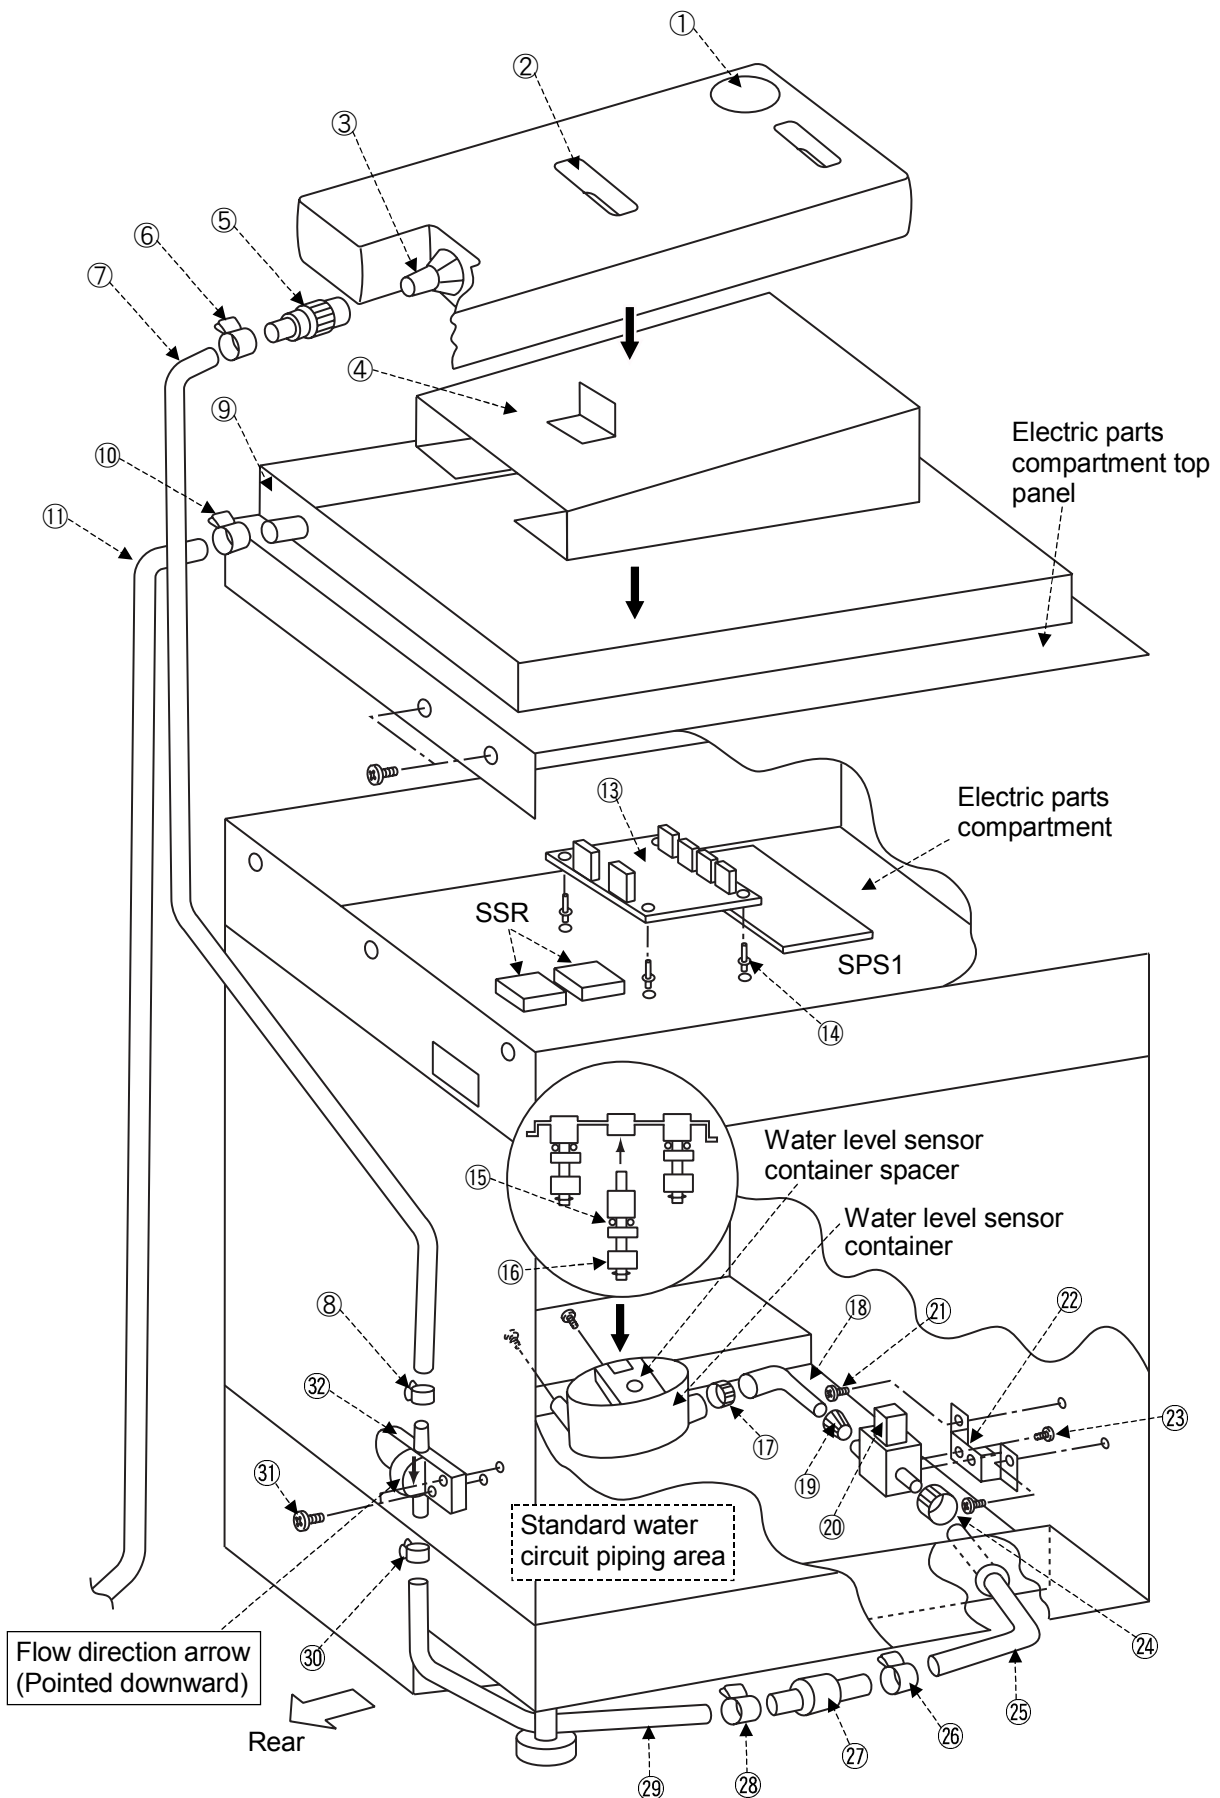

Fig. 9.1 Piping for auxiliary water tank circuit (option)
The same numbers given under “No.” are used in Fig. 9.1.
6. Rig the auxiliary water tank circuit line as shown in Fig. 9.1. Lock the solenoid valve ⑳ to the solenoid bracket ㉒ before locking the bracket to the water circuit compartment.
8. Fit the spacers ⑭ (for circuit board) into the bottom of the electric parts compartment, and install the auxiliary water tank water supply board ⑬.